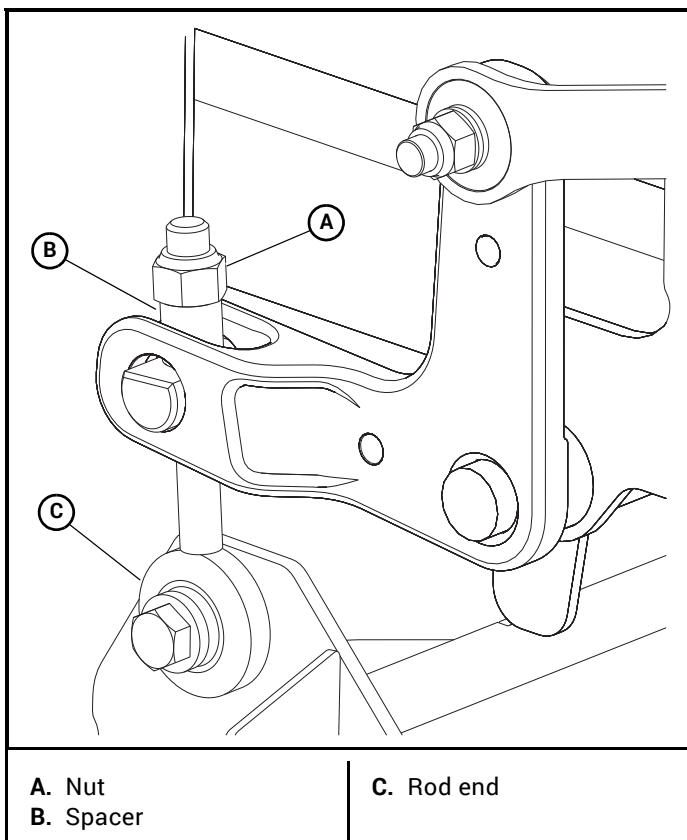

Figure 8-4
6. Adjust the nut on each deck level rod end over the three blocks so that the deck is sitting on the block and the nut is on the deck level spacer. Figure 8-4